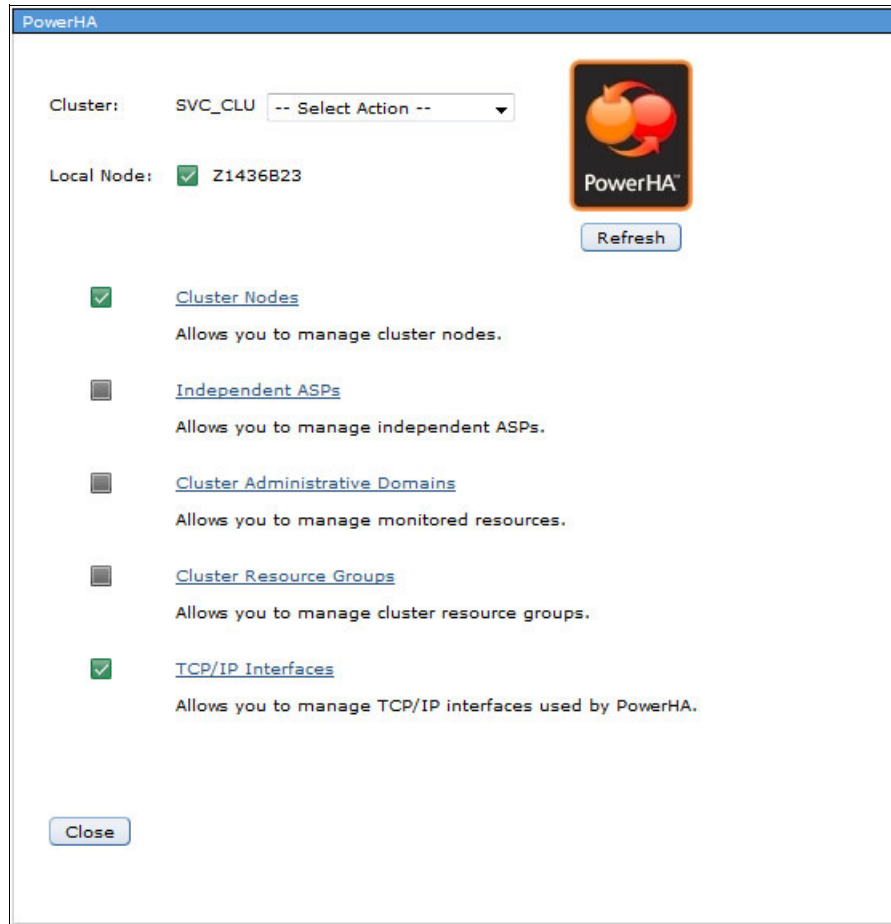

Figure 4-15 PowerHA main menu
12. From the PowerHA main menu (as shown in Figure 4-15), select **Cluster Nodes** to edit the cluster nodes that were created.